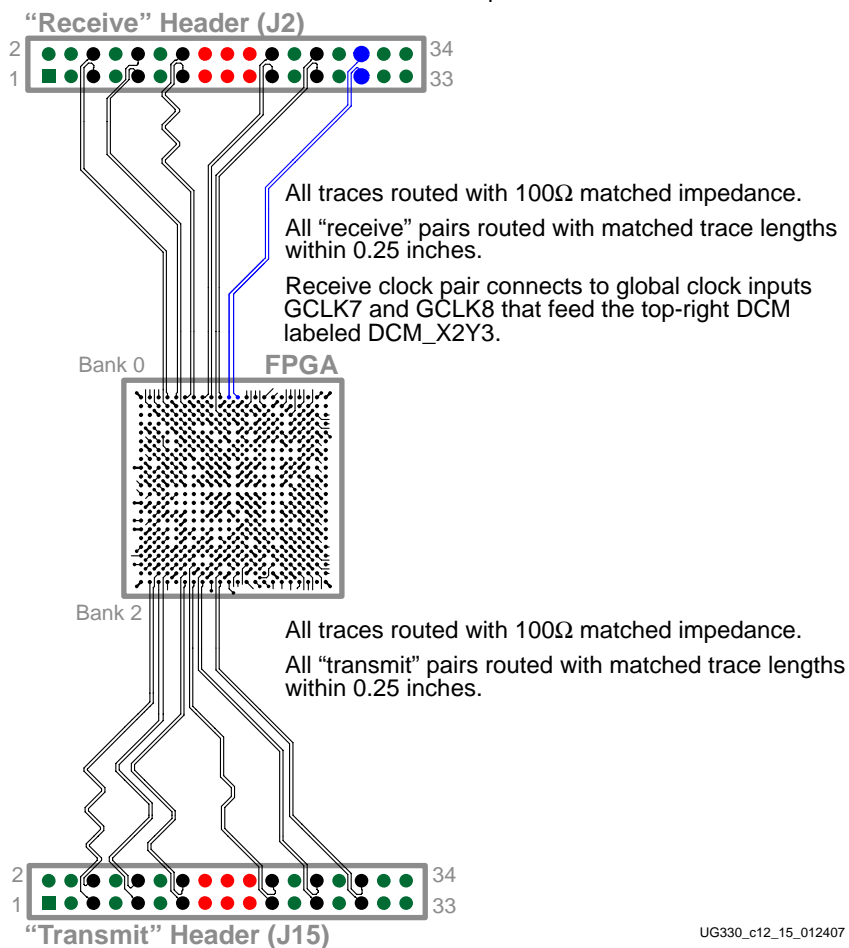

Figure 15-6: Differential I/O Layout
Figure 15-6 shows board layout extracted from the Starter Kit board that highlights the differential I/O signal traces. These traces were routed for optimal signal integrity.
- The “Receive” differential clock pair, highlighted in blue in Figure 15-6, connects to a differential global clock input pair, GCLK7 and GCLK8. Using these global clock